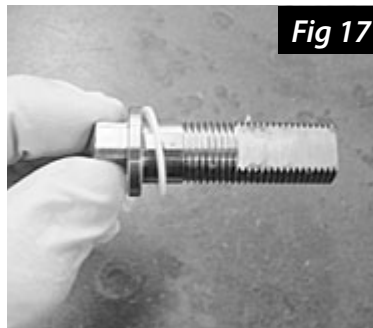

Fig 17
1. Place a new Teflon® spacer on the valve stem (Fig 17).